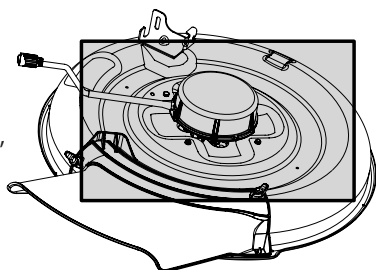

Figure 13
- Clean the top of the tractor deck. See Figure 13.